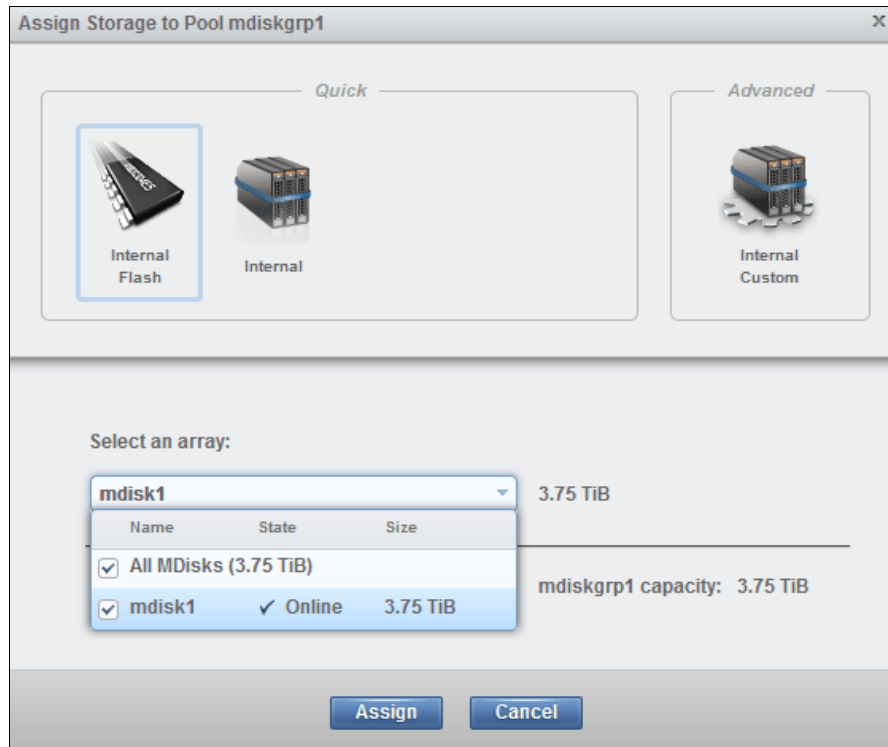

Figure 5-29 Assign storage to mdiskgrp1
11. The Assign Storage to Pool wizard starts (Figure 5-29). Click **Internal Flash**, select the available MDisk and then click **Assign**.